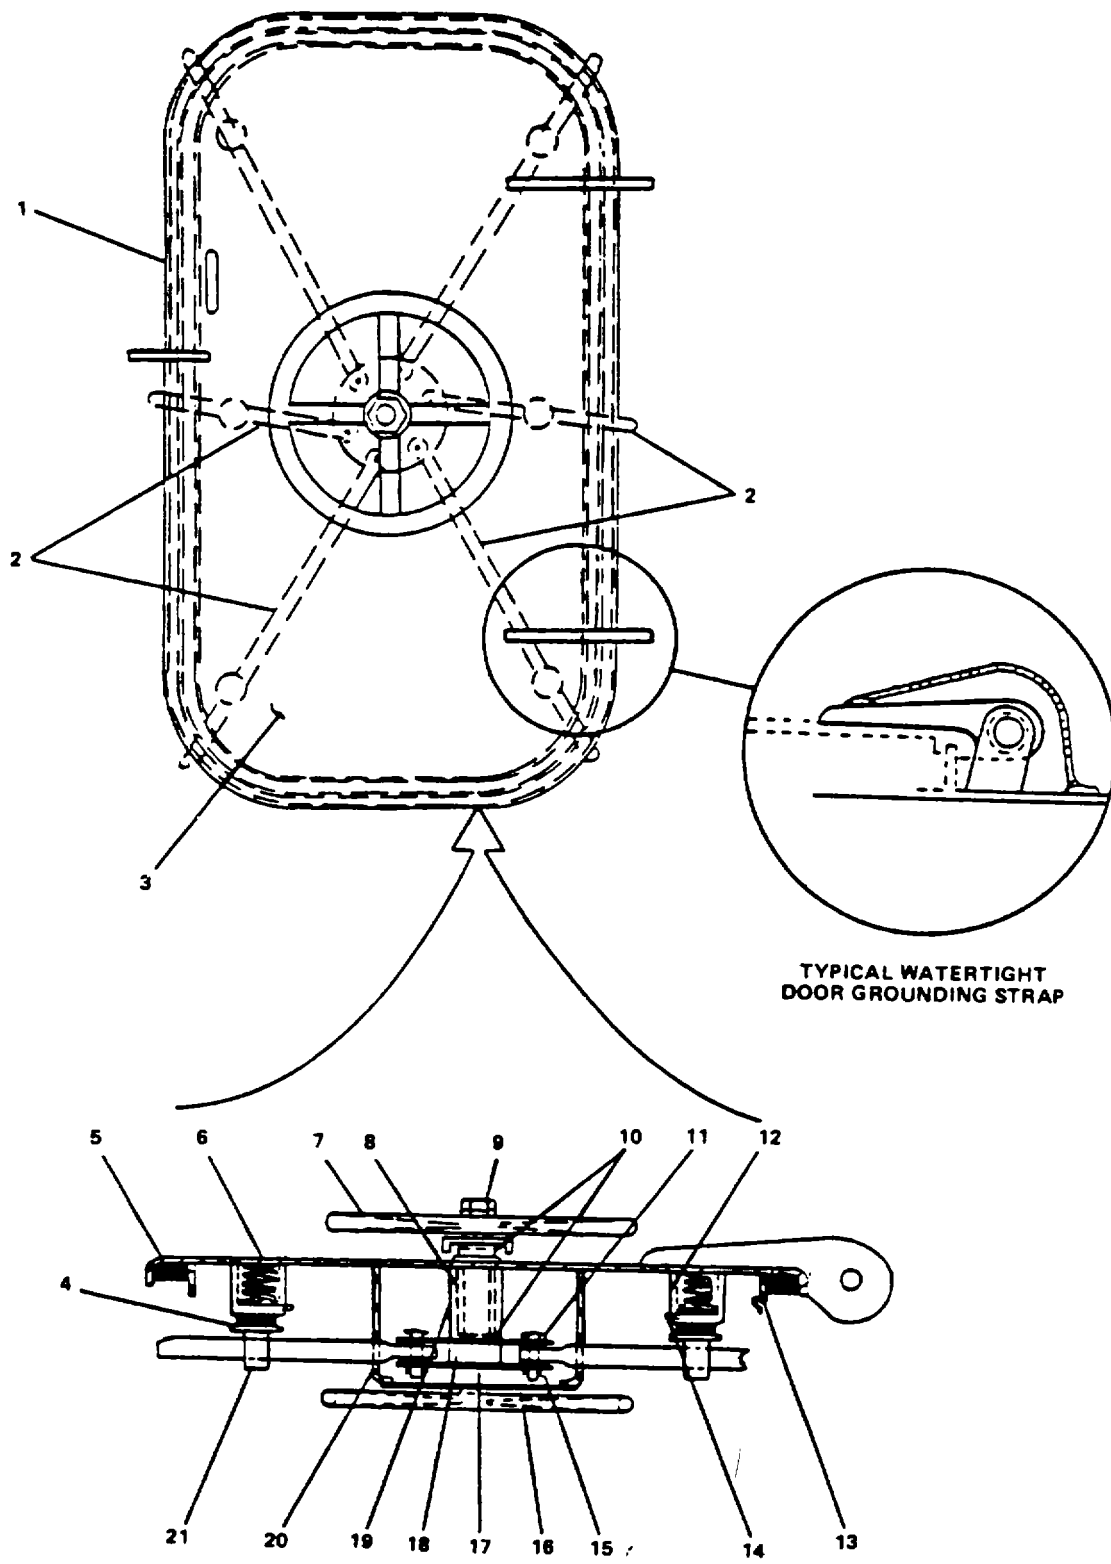

Figure 2-34. Repair Watertight Door. Quick Action. Left Hand.
- a. Remove hex nuts (7). 9, Figure 2-34) from handwheel (7).
Repair at this level of maintenance is by replacement of preformed packing (8, Figure 2-34), gasket (5), brass bushings (10) helical compression springs (6), and bushings (4).
- c. Install gasket (5) in figure 2-34 gasket retainer (13) on door.
- d. Install preformed packing (8), brass bushings (10), and shim (18) on handwheel shaft.
- e. Place helical compression springs (6), then bushings (4) on door.
- f. Install dog arms (2) with guides (21) and secure using setscrews (14).
- g. Install handwheel (7) and shaft (17) on door.
- h. Install cylindrical pins in dog arms and secure using cotter pins (15).
- i. Install handwheel (7) and secure with hex nuts (9).
- j. Install strap cover (20) and cover (16) on door.